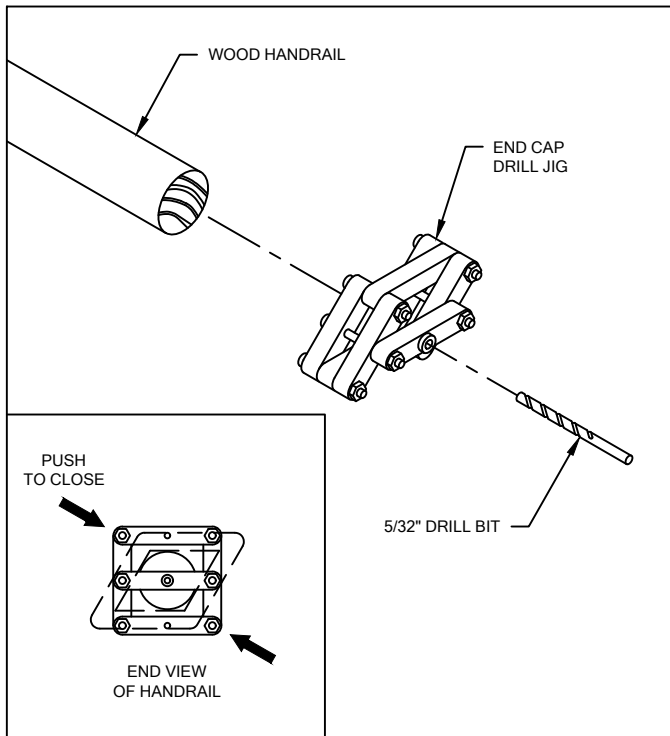

FIGURE 2.
5. TO ENSURE PROPER ALIGNMENT OF HANDRAIL TO END CAP, USE THE END CAP DRILL JIG TO DRILL A PILOT HOLE FOR END CAP ATTACHMENT IN EACH END OF THE HANDRAIL. (SEE FIGURE 2)